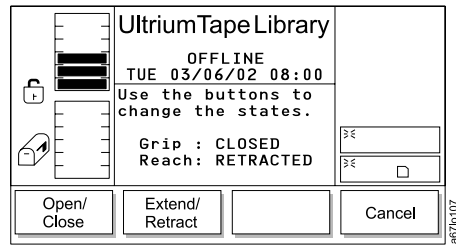

Figure 286. Picker Finger Dialog
7. Press the button below the **OK** softkey. The Picker Finger Dialog displays (see Figure 286).